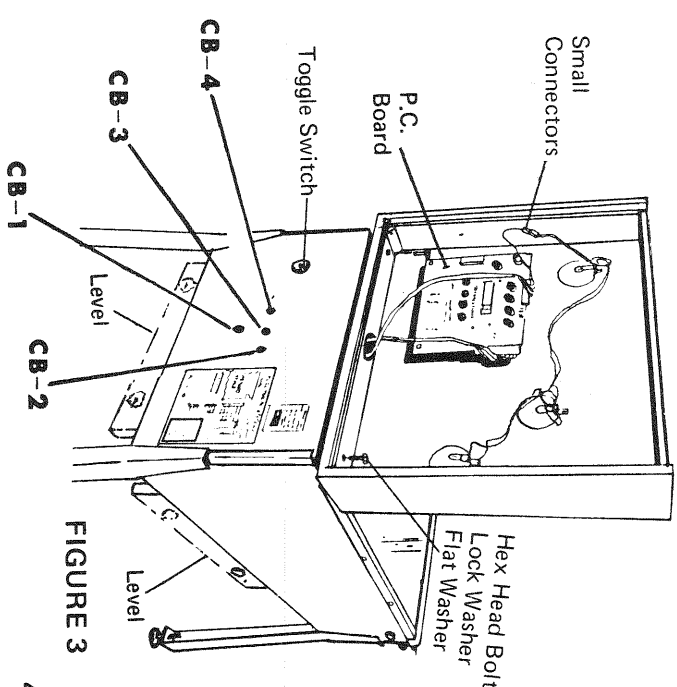

FIGURE 3
5. Level the unit by placing a level along the bottom edge of the lower cabinet (Figure 3). Adjust the leg levelers up or down as required.
8. Position the upper cabinet on top of lower cabinet as shown in Figure 3.
9. Reach down inside of lower cabinet and retrieve the two (2) wiring harness assemblies. Route the two wiring harness assemblies through the 3" hole in bottom panel of upper cabinet as shown in Figure 3.
10. Plug in the two wiring harnesses to the P.C. Board as shown making sure that the metal tabs on the harness connectors are in contact with the metal strip side of the P.C. Board. Connect the two small connectors as shown. (Figure 3)
11. Secure the upper cabinet to the lower cabinet as shown in Figure 3 with two Hex Head Bolts, 1/4-20x1 1/2", two lock washers and two flat washers. Replace the back panel.